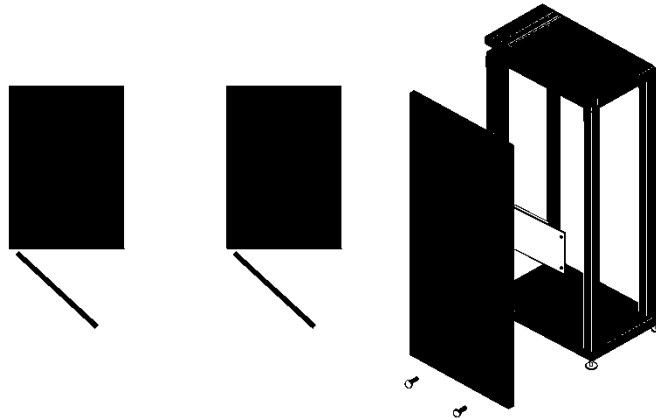

Figure 2. Removing Side Panels from the Racks
- Remove the left side panel from Cabinet 2. (See Figure 2.) Follow the same procedure as for Panel 1, except that there is no panel clamp to loosen.